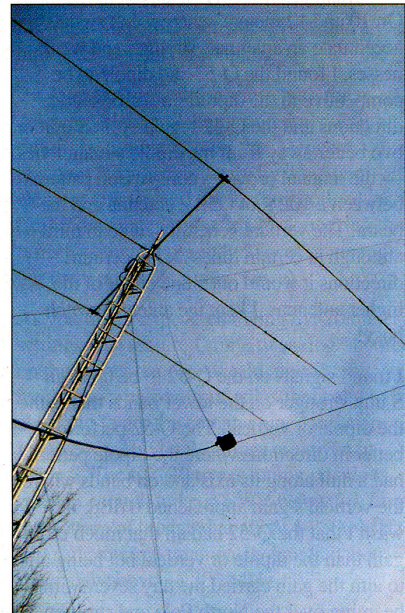
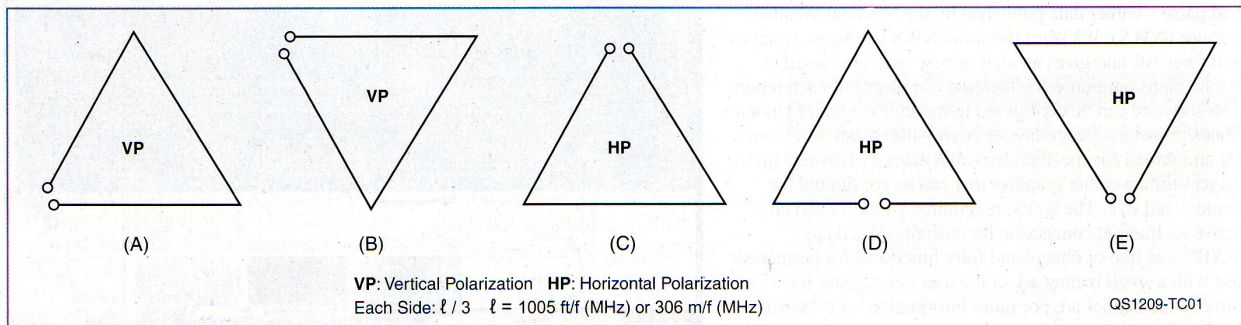

Figure 2 — Here is a view of the delta loop configuration E in practice.
Figure 1 — There are various possible configurations and polarizations for a full size delta loop.
when fed from the bottom half or top half. Some common configurations are illustrated in Figure 1.
A delta loop works well especially for the lower frequency bands when the antenna is vertically polarized and height is a challenge. When it is fed as shown in Figure 1, Parts A and B, the delta loop will have vertical polarization, and give a low angle of radiation, approximately 28°. In horizontally polarized configurations as shown in Figure 1, Parts C and D, the antenna presents a very high angle of radiation. The configuration shown in Part E presents an exception that shows a moderately high angle of radiation, but also tends to have a low vertical component as well. The best configurations, in order of performance are B and then A, E respectively.
To summarize, an air core 4:1 balun, used with either configuration A or B from Figure 1 presents a very effective DX multiband antenna. The balun used with configuration E would be the second best choice. This antenna has given me flexibility and multiband performance from a number of station locations over the years. The 20 m delta loop, in particular, goes with me everywhere for portable operations across 5 bands. — 73, Sajid Rahim, VA3QY/A22EW/H5ANX, 3474 Hannibal Rd, Burlington, ON L7M 1Z6, Canada; sajsanr@gmail.com
Figure 1 — This drawing shows the final configuration. The antenna is tilted out of the vertical plane by about 30°. Maximum signal strength is in the direction opposite to the tilt.
Figure 2 — If the antenna wire were black or gray, it would be even harder to see. Good for an inconspicuous installation. I needed to add the white ribbon so I wouldn't blunder into it while walking around. Note the "high tech" rocks holding the antenna down.
I decided to focus on the corner-fed full wave delta loop as described in Sajid's article. I liked the idea of a ground-independent system, as he mentioned. A little *EZNEC* modeling would, indeed, work very well close to the ground — even, in fact, with the bottom (horizontal) leg on the ground! Also, by tilting the plane of the delta off vertical it seemed that I could realize some forward gain over a strictly vertical orientation, while the elevation pattern still showed a maximum at a fairly low angle. This seemed too good not to try. Figure 1 shows the configuration. The best part of this antenna is that it's very easy to put up.
Step 3: Form the rest of the wire into an equilateral triangle as shown in Figure 1. Since the bottom corners are on the ground, you can use a couple of rocks to hold them in place, as shown in Figure 2.